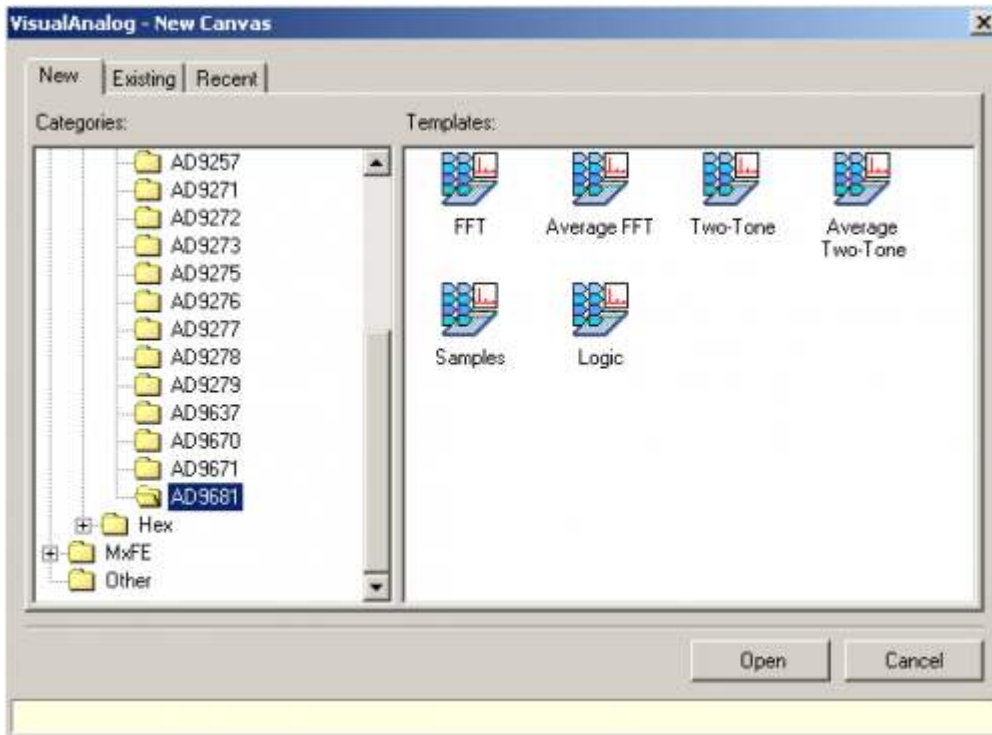

Figure 3. VisualAnalog, New Canvas Window
1. Start VisualAnalog on the connected PC. The appropriate part type should be listed in the status bar of the **VisualAnalog - New Canvas** window. Select the template that corresponds to the type of testing to be performed (see Figure 3).